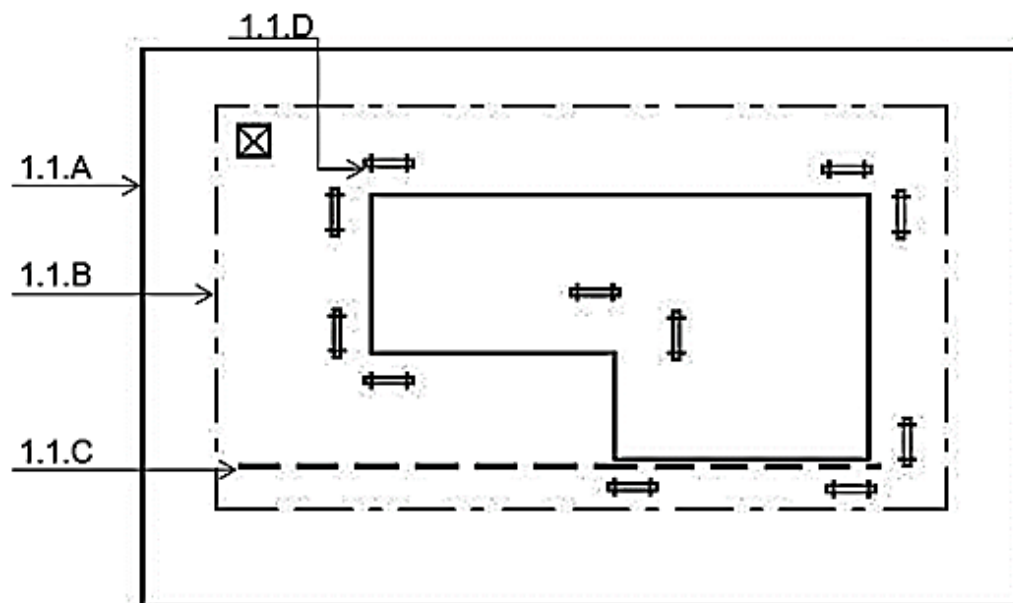

FIGURE 1.1
1.1 FIGURE 1.1 shows the outline of a house which must be measured out on a site. Answer the following questions with regard to the measuring-out procedure.